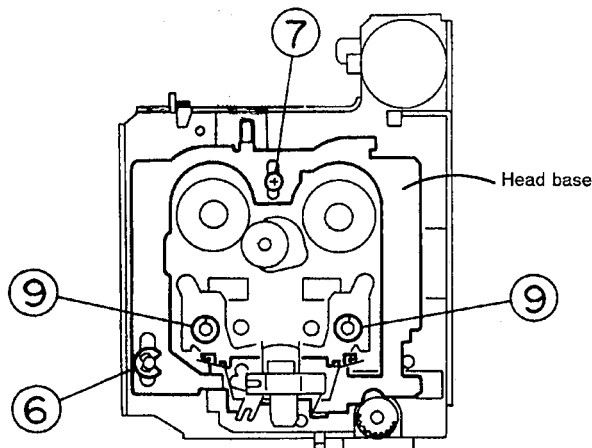
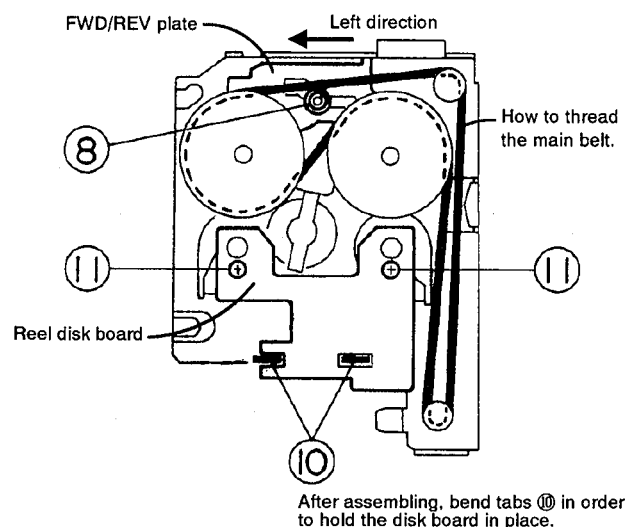
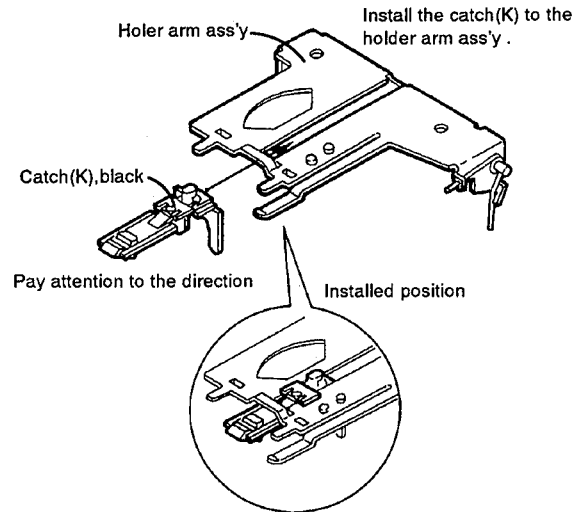

Fig. 4-17
Fig. 4-18
Fig. 4-19
■ **Head base** (See Figs. 4-17 and 4-18)
- 3) Remove the E washer ⑥ from the left shaft of the pinch roller.
- 4) Remove screw ⑦ for the head base.
- 5) Turn the head base upside down, then remove the C washer ⑧ securing the collar which secures the FWD/REV plate (the collar can also be removed.) (At this time, if the main belt is removed, operation will be made easier.)
■ **Flywheel ass'y** (See Figs. 4-17 and 4-18)
- 3) Remove two C washers ⑨ attached to the capstan shaft (remove both the right and left washers).
■ **Reel disk board ass'y** (See Fig. 4-18)
- 1) Straighten the bent tabs ⑩ holding the reel disk board.
- 2) Remove two screws ⑪ fixing the reel disk board.
■ **How to assemble the cassette holder and sub chassis** (See Figs. 4-19 through 4-22)
Step 1. How to Install the catch (K)